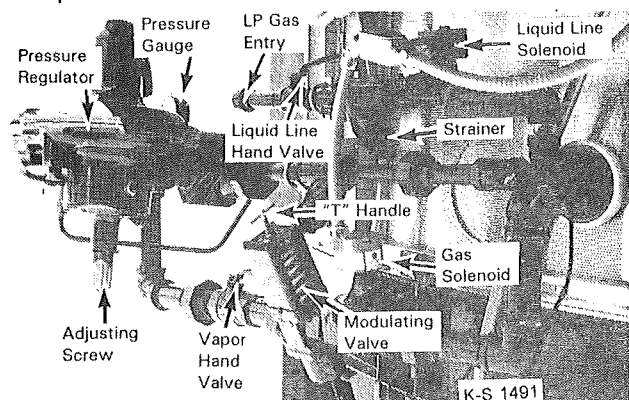

Figure 21
2. Turn the "T" handle on the modulating valve IN to increase temperature and OUT to decrease temperature (see Figure 21). There is a temperature gauge mounted on the control panel.